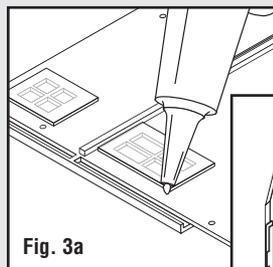

Fig. 3a
- Align Window Material over corresponding windows on inside of Building. Verify placement, then glue in place. Dab a small amount of glue carefully around edges (**Fig. 3a**). Repeat for each set of window openings.